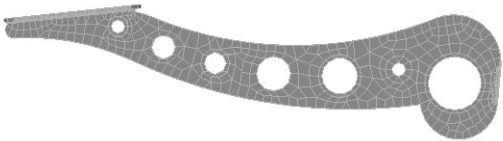

Figure 8-79 Changed orientation of the model
- 1. Change the current orientation of the model similar to the one shown in Figure 8-79 by using the **ViewCube**.